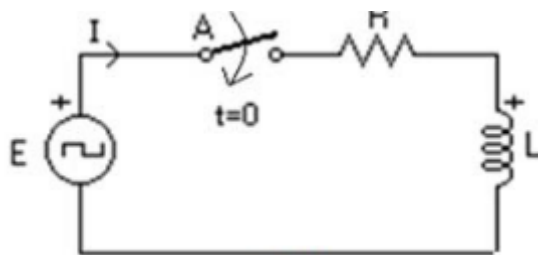

Figure 3.
2. Construct the circuit in Figure 3 with $E=10\text{V}$, $R=2.2\text{k}\Omega$, and $L=47\text{mH}$.